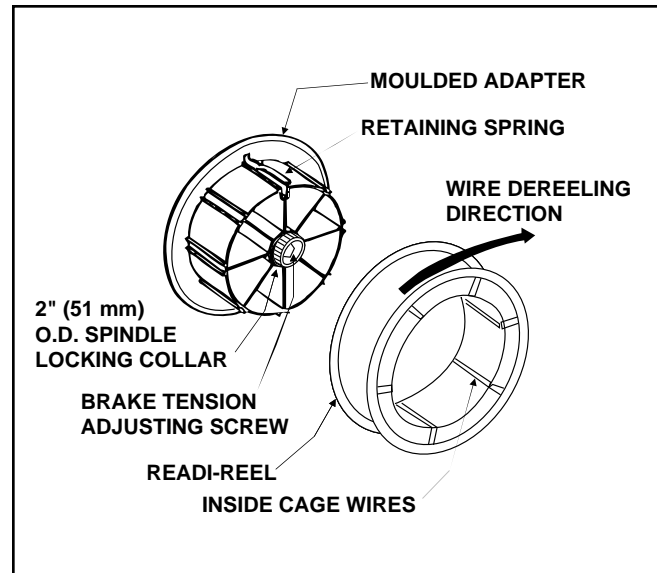

FIGURE B.2 - Wire Reel Loading.
3. Position the Redi-Reel so that it will rotate in a clockwise direction when wire is dereeled from the top of the coil. See Figure B.2.